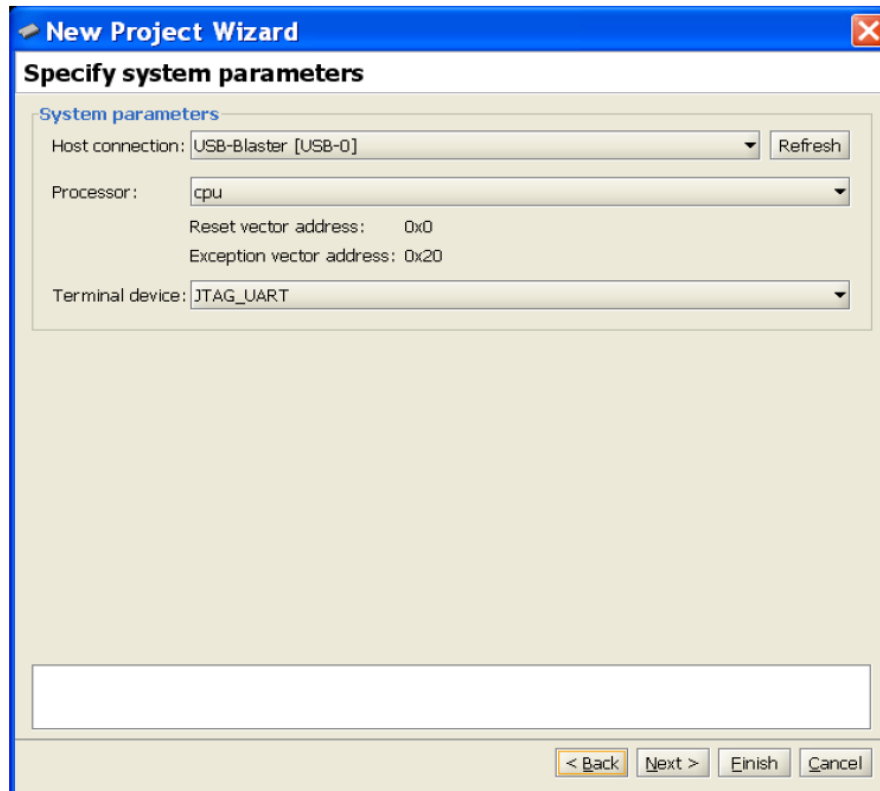
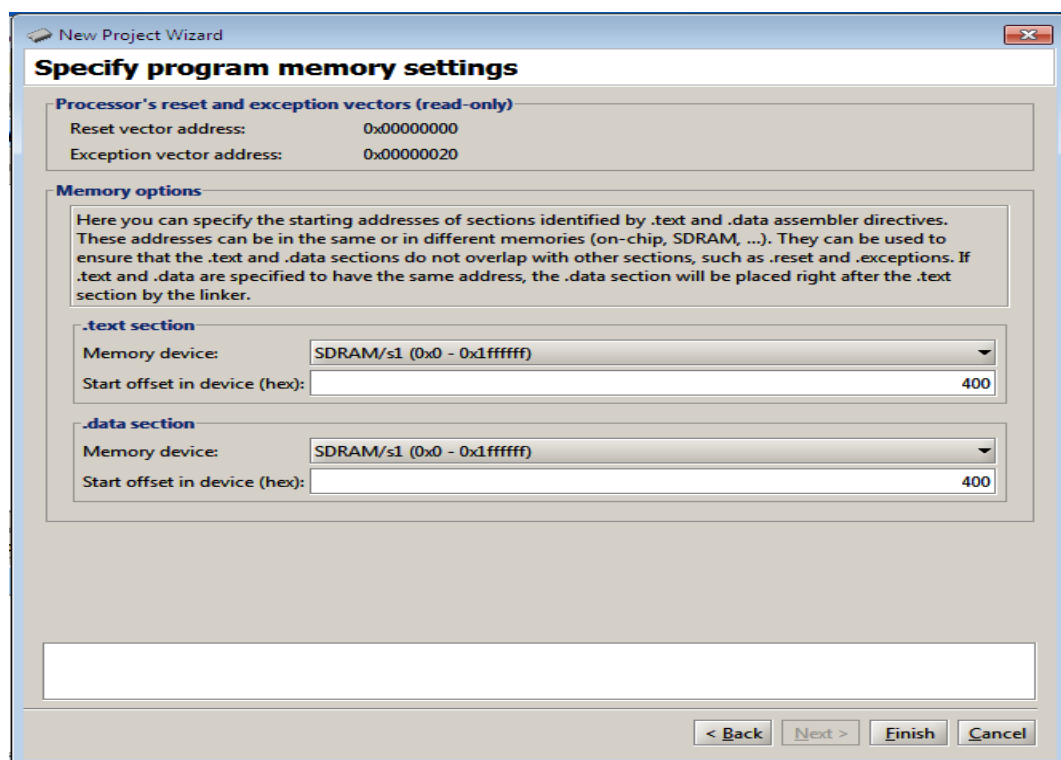
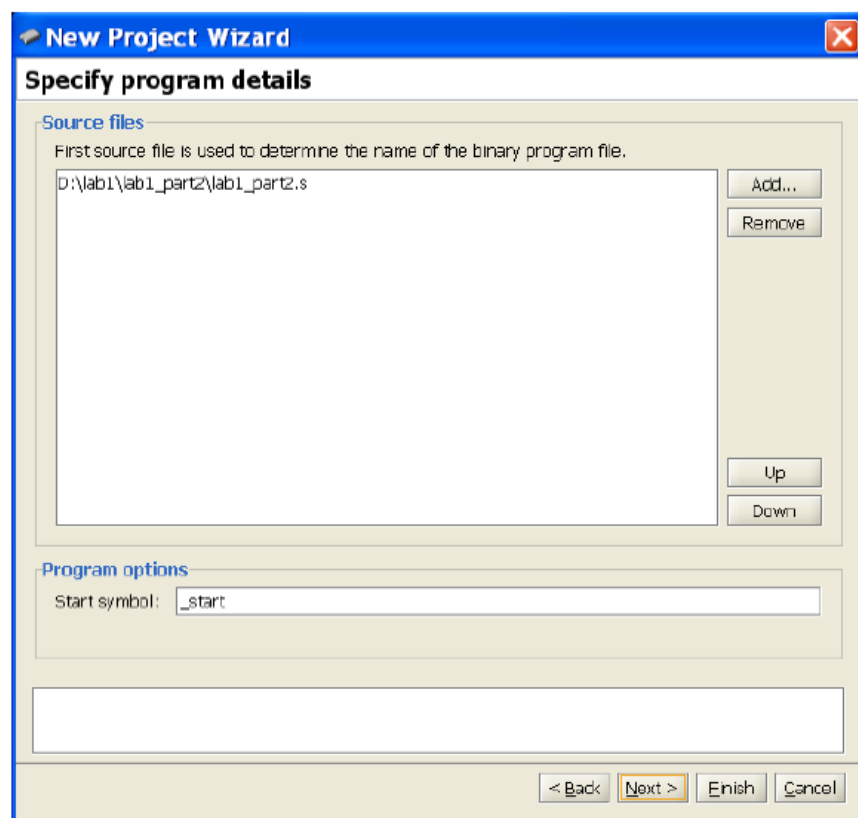

Figure 7: Specify the system parameters.
Figure 8: Specify the program memory settings..
Figure 13: Select your source program.
6. The window in Figure 7 indicates some system parameters. Note that the *USB-Blaster* cable is selected to provide the connection between the DE0-Nano board and the host computer. Click **Next**.
7. The window in Figure 8 displays the preselected components of the DE0-Nano Basic Computer. Observe that the SDRAM is selected as the memory device to be used. The start offset is 0x400, which means that the application program will be loaded in the memory locations that begin at address 400 in hexadecimal format. Since this choice was made by the designer of the sample program, you cannot change the selection in Figure 8. Click **Finish** to complete the specification of the new project.
box that appears indicate the desired file name, `lab1_part2.s`, and its location. This should lead to the image in Figure 13. Click **Next** to get the window in Figure 7. Again click **Next** to get to the window in Figure 8. Make sure that the SDRAM is selected as the memory device. Note that the *Start offset in device* will be 0, because the program in Figure 11 does not indicate that it should loaded at a location that is different from the default location 0. Click **Finish**.